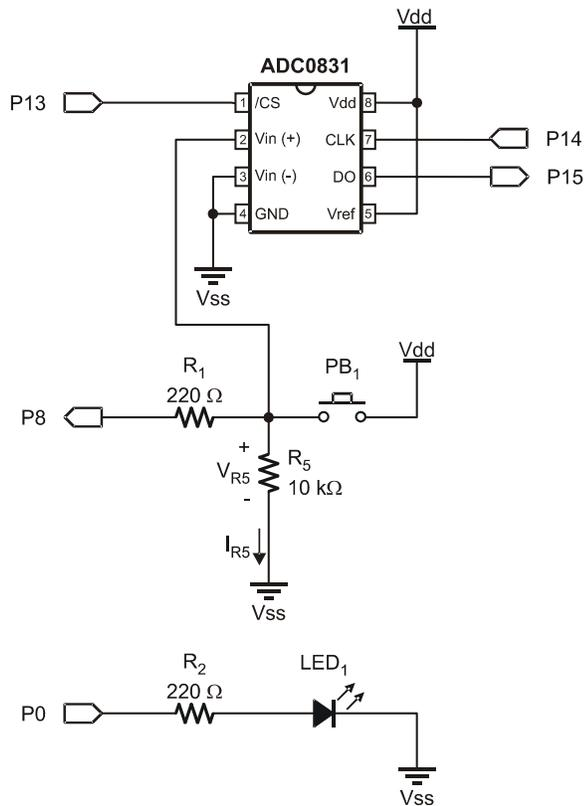

Figure 3-8
- √ Place a 10 k Ω resistor from the P8 side of the pushbutton to V_{SS} as shown in Figure 3-8.